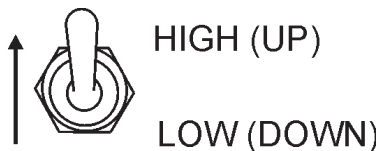

Figure 51. Engine Speed Switch (High)
8. Once the engine is warm and the engine is running properly, set the engine speed switch to **"HIGH"** (Figure 51).